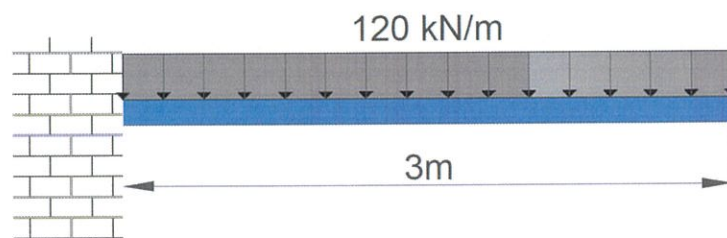

Figure 3(c) / Rajah 3(c)
- (c) A cantilever beam 3 m long is subjected to a uniformly distributed load of 120 kN/m as illustrated in Figure 3(c). Given the Young's modulus of 483 GN/m² and the second moment of area of $6.21 \times 10^{-5} \text{ m}^4$. Determine: